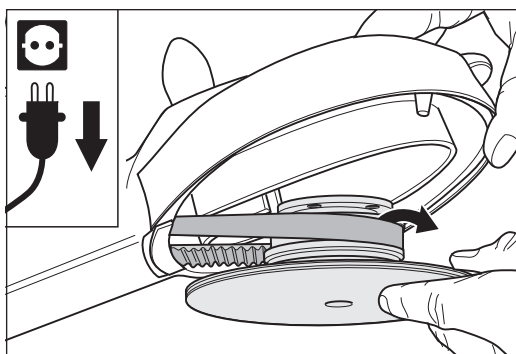

Fig. 75 Inserting the belt disc into the V-belt.
- 16 At the front of the attachment, insert the belt pulley of the bearing unit of the sanding disc wheel into the V-belt (fig. 75).